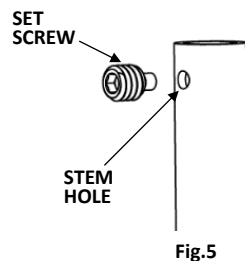

Fig.5
**5. INSTALL BALL TO STEM. Fig.5,6,7**